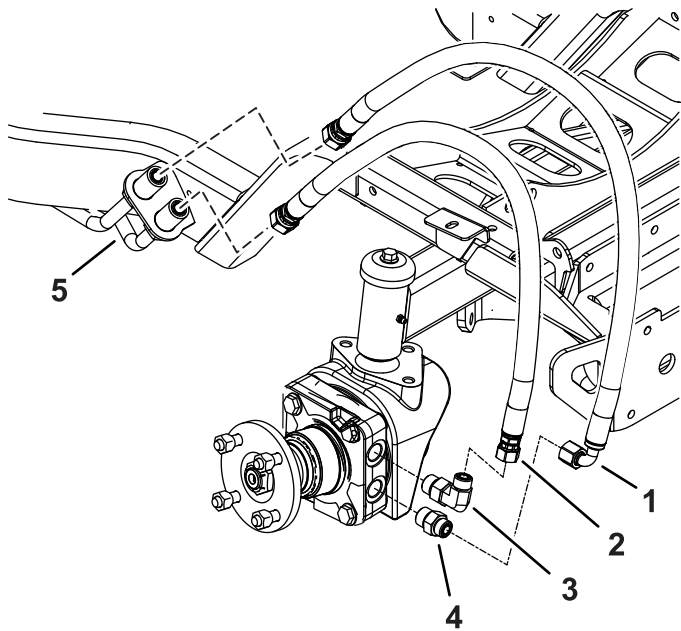

Figure 11
3. Install the new straight fitting and the 90° elbow fitting to the wheel motor (**Figure 11**).
6. Install the hose with straight fittings onto the 90° elbow fitting (**Figure 11**).
7. Install the hose with the 90° elbow to the straight fitting (**Figure 11**).
16. Remove one cap at a time and install the correct hose to the hydraulic line as shown in Figure 11.
17. Remove the remaining cap and install the hose to the hydraulic line (Figure 11).